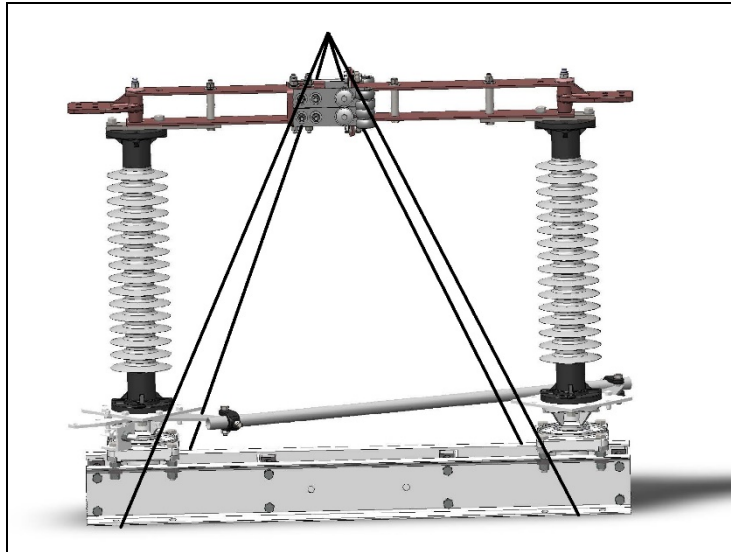

Figure 9: Sling Attachments
4. Lift the assembled switch by the switch base only – more than one sling should be used. Refer to **Figure 9**.
- 1.2. Sling each switch phase and rotate the entire assembly on the structure 180 degrees. Refer to **Figure 9**.